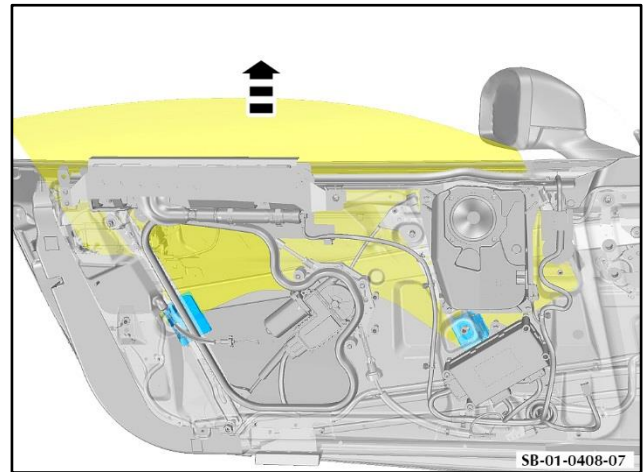

Figure 7
6. Release the door glass from the regulator sliders (refer to Figure 7).